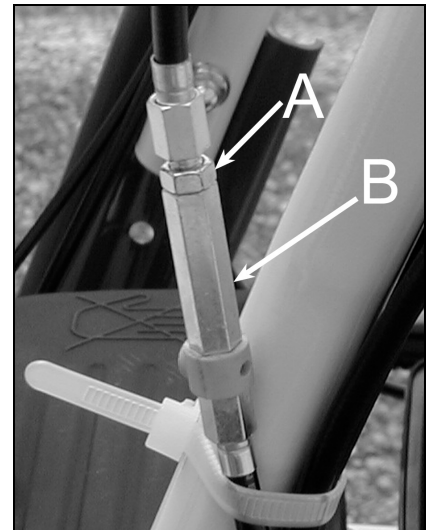

Figure 24
1. Loosen the lock nut (A, figure 24) at the middle adjuster of the side clutch wire.
2. Turn the adjust nut to adjust the tension of the side clutch wire. (B, figure 24)